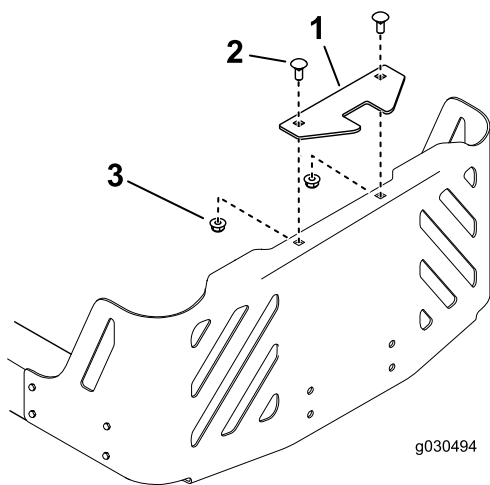

Figure 14
- 2. Install the stabilizer bracket to the engine guard using 2 carriage bolts (5/16 x 3/4 inch) and 2 locknuts (5/16 inch) as shown in Figure 14.